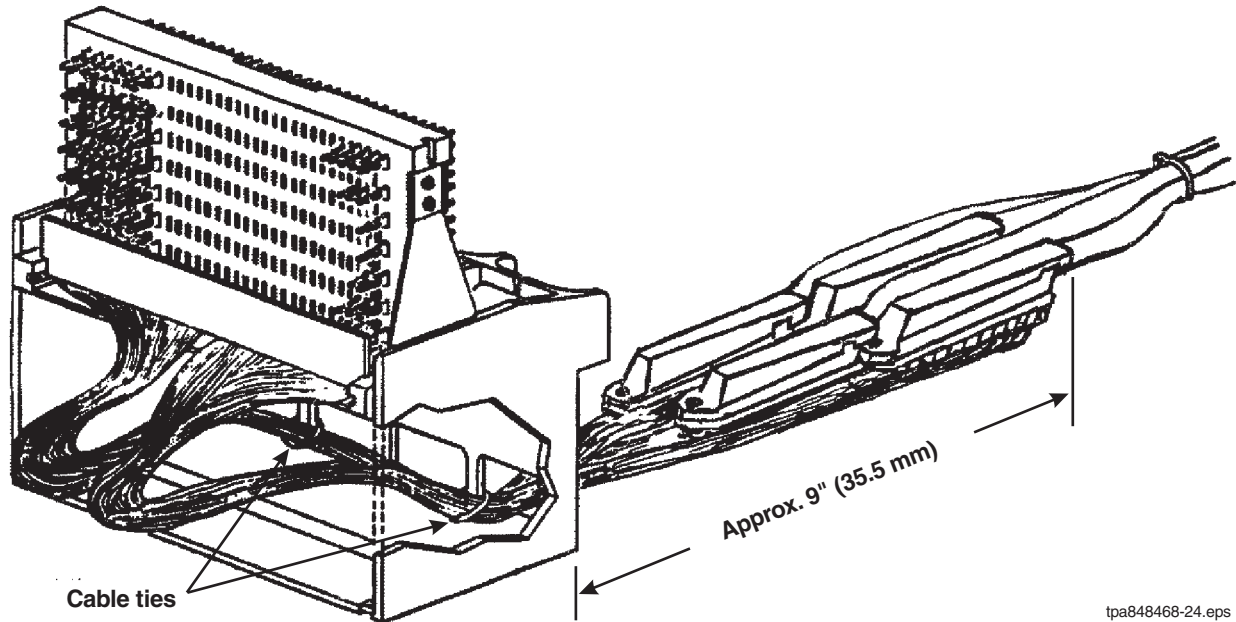
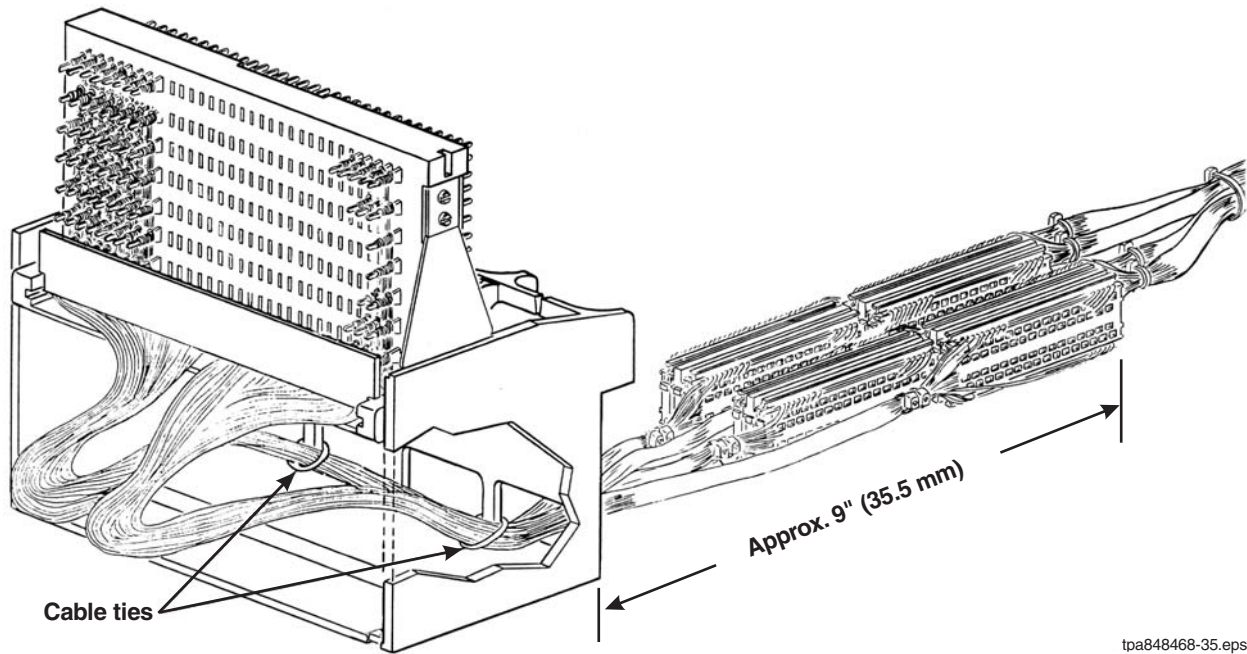

Figure 1. Block Rotated to Open Wiring Position with TRW-Type Connectors
Figure 2. Block Rotated to Open Wiring Position with 711-Type Connectors
2. To mount the 89-type connecting block, the terminal block assembly may be removed. Depress the latch at the bottom front edge of the housing assembly and rotate the block 180 degrees. To remove, spread the sides of the housing outward at the top and remove the block body from the housing. Position the housing on the frame and secure with the four screws provided for each block. Snap the terminal block assembly back into the housing one side at a time, then rotate the connecting block assembly to the open wiring position. (See Figure 1 and Figure 2 on page 4.)
The 711- or TRW-type connectors should protrude from the back of the block approximately nine (9) inches and be aligned in a 2x2 arrangement. Dress wires inside the block into an "S" configuration. (See Figure 1 on page 3 and Figure 2.)